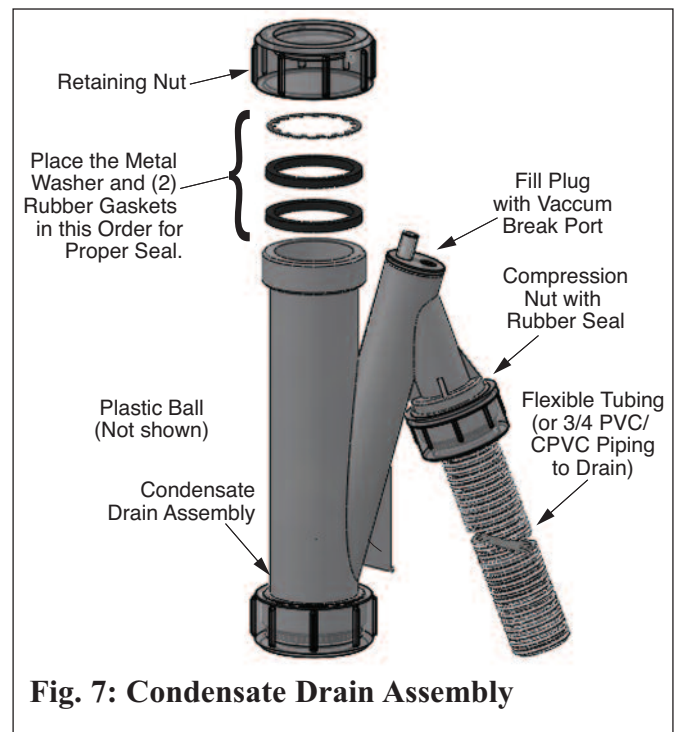

Fig. 7: Condensate Drain Assembly
2. Install the condensate drain assembly as shown in Fig. 7.